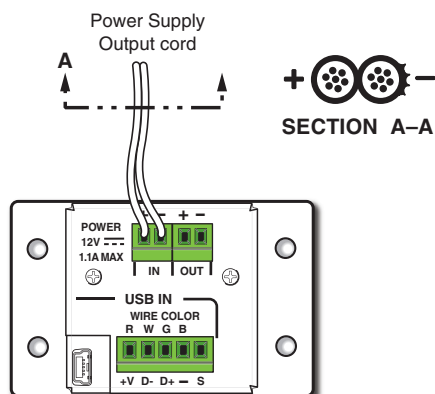

Figure 5. Wiring the Power Connector
1. Connect the power supply to the In pins (first and second) of the Power direct insertion captive screw port as illustrated in figure 5.